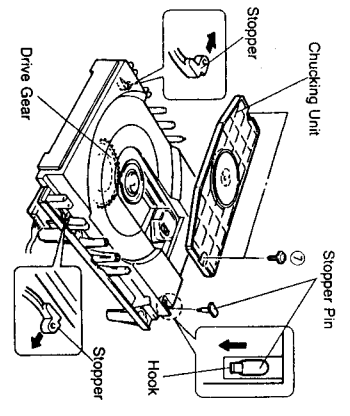

Fig. 3
- a. Remove 2 screws (7) and then remove the Chucking Unit in Fig. 3.
- b. Remove 1 hook and then remove the Stopper Pin in Fig. 3.
- c. Rotate the Drive Gear and then open the Tray Unit in Fig. 3.
- d. Detach the Stoppers on both sides and then pull out the Tray in Fig. 3.